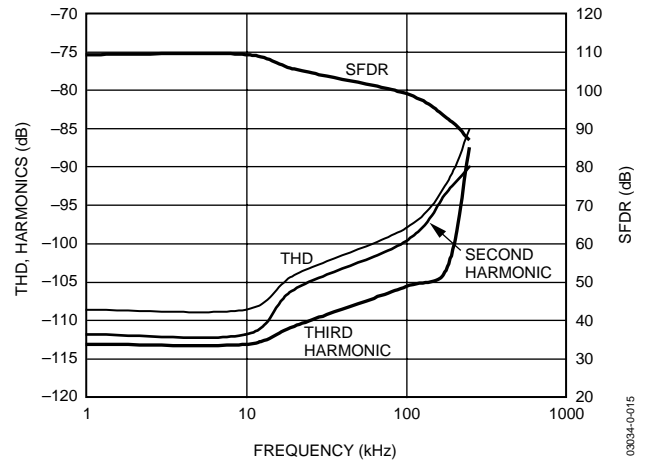

Figure 15. THD, Harmonics, and SFDR vs. Frequency
- x The driver needs to have a THD performance suitable to that of the AD7666. Figure 15 gives the THD versus frequency that the driver should exceed.